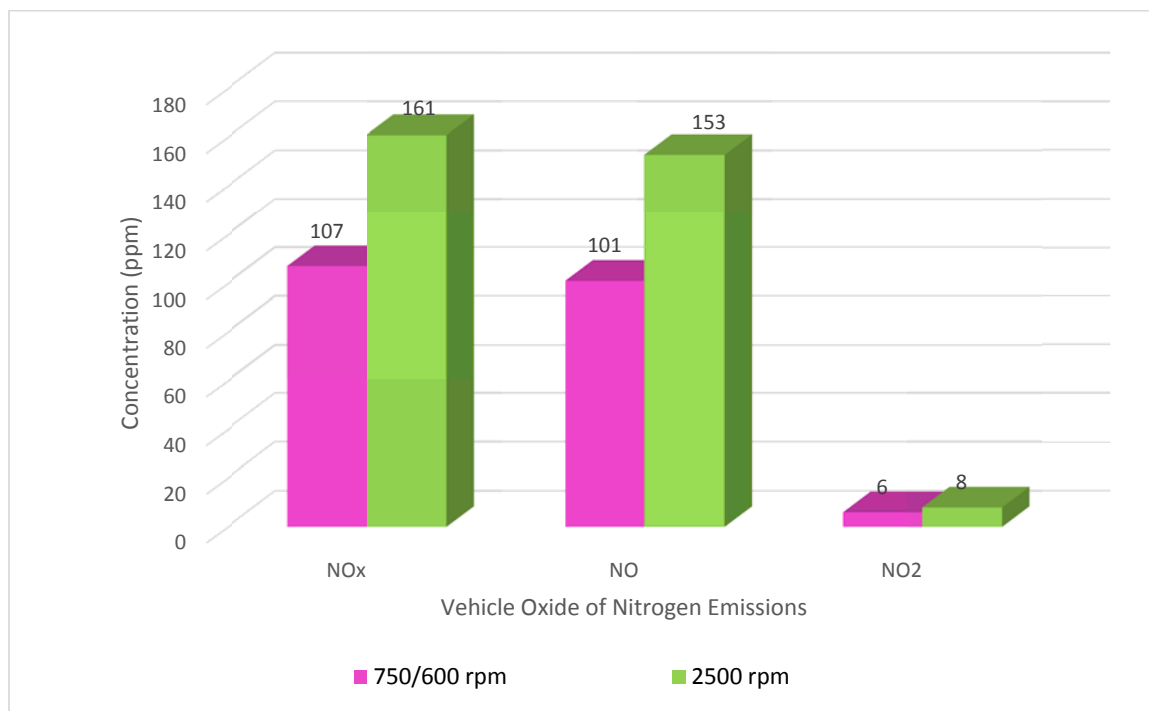

Figure 2b: Toyota Hilux 150 – NOx Element Emissions After FCC was added
NO_x is produced from the reaction of nitrogen and oxygen gases during combustion especially at higher temperatures. The two elements combine to form nitric oxide (NO) and nitrogen dioxide (NO₂). Nitric oxide is not considered to be hazardous to health at typical ambient concentration but nitrogen dioxide can be. As shown in Figure 2b, the increment was mainly contributed by nitric oxide (NO) which is not considered harmful at a typical condition. Therefore the increase amount of NO may not be a critical issue.
combines with other pollutants in the atmosphere and creates O_3 , a substance known as ground level ozone. The NO and NO_2 element released to atmosphere in this case were also recorded and presented in Figure 2b below.
By referring the results in Figure 2b, the oxide of nitrogen had mainly converted into nitric oxide (NO) i.e.: circa 95%. Only a minimum amount had been converted to nitrogen dioxide (NO_2). Nitric oxide is not considered to be hazardous to health at typical ambient concentration but nitrogen dioxide can be. As shown in Figure 2b, the increment was mainly contributed by nitric oxide (NO) which is not considered harmful at a typical condition. Therefore the increase amount of NO may not be a critical issue